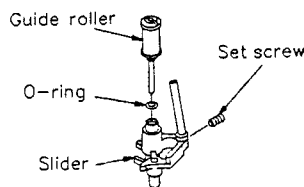

Fig. 4-3-4 Guide roller replacement
1. Loosen the set screw shown in Fig. 4-3-4.
5. After completion of the replacement, perform adjustment from the linearity adjustment item 4) in the tape transport adjustment. (Refer to item 1-4-5 (3).)